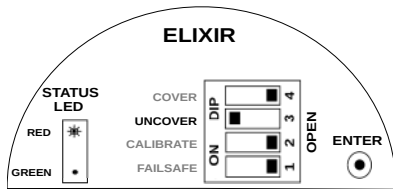

Figure 14: Uncover Delay Switch Position
- To set the Uncover Delay, set the UNCOVER switch to CLOSE position as shown in Figure 14. (CLOSE is the opposite of OPEN for a DIP switch.) The STATUS RED LED will glow.